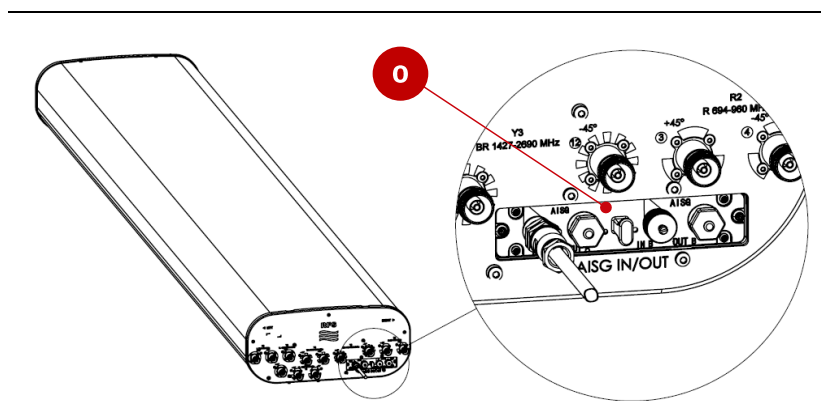

Figure 3: Location of the ACU on an antenna
- The ACUs of the families ACU-I20-H, ACU-I20-B, ACU-X20-B, ACU-X20, ACU-X20H are flush mounted to a bottom end cap of an antenna (as depicted in Figure 3, the bullet [0] highlights an ACU's panel of AISG connectors).